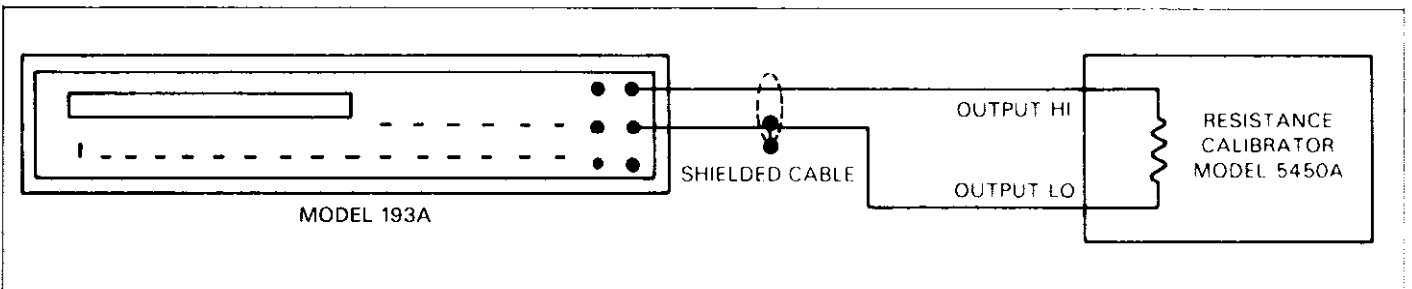

Figure 6-5. Two-Wire Resistance Calibration Configuration (200kΩ-200MΩ Ranges)
- F. Repeat the procedures in step 3 for the remaining ohms ranges using Table 6-6 as a guide. Refer to Figure 6-5.